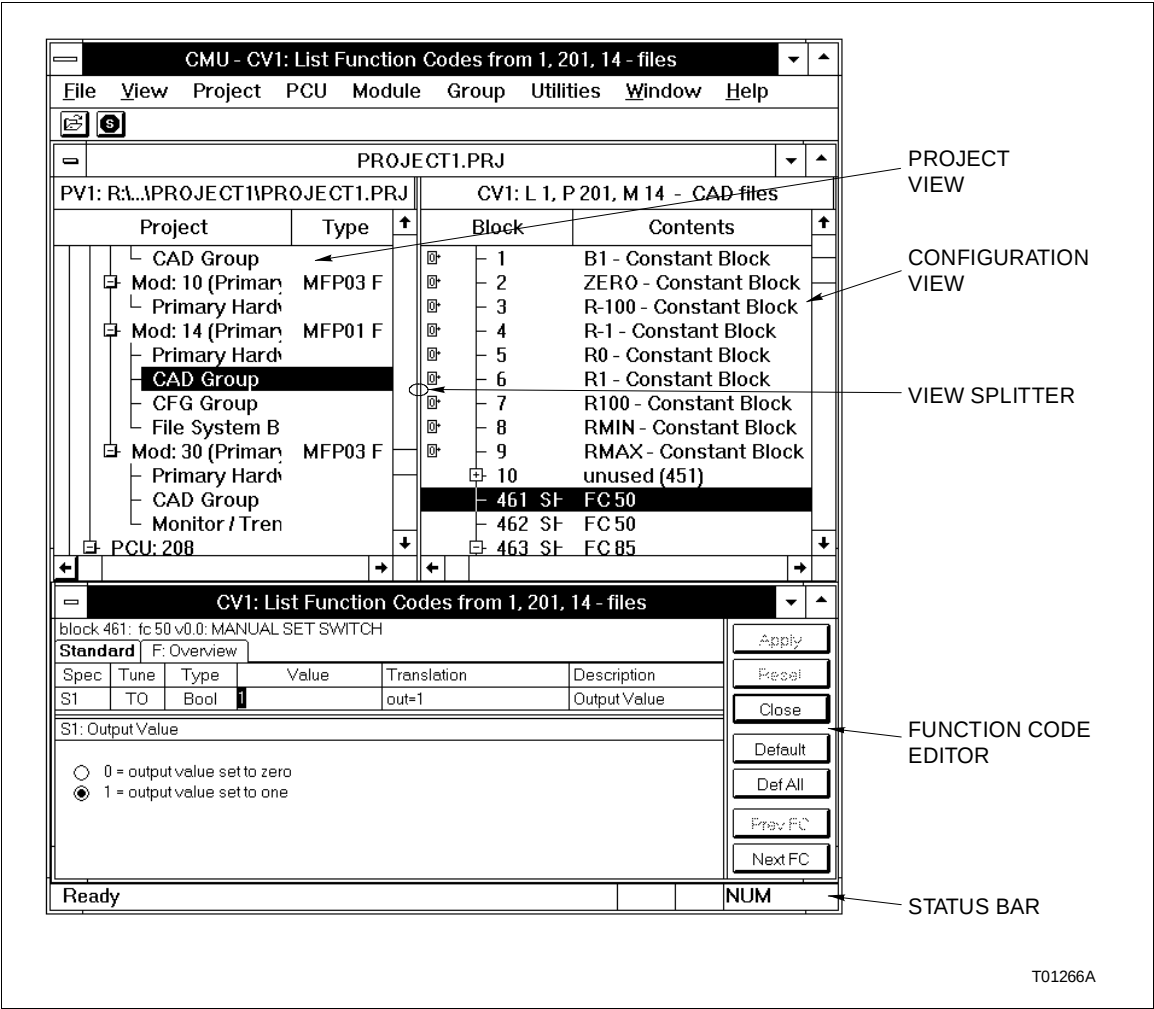

Figure 7-1. CMU Application Window
3. Examine any function block outputs of interest. To tune function code specifications, choose *Modify Specs* from the *Functions* menu (**Alt U S**). A function code editor appears similar to that shown in Figure 7-1. Only tunable parameters are shown. Refer to **FUNCTION CODE EDITOR** for information on using the function code editor.
The CMU application runs under the Windows operating environment. The parts of the CMU application window are shown in Figure 7-1 and described in the following paragraphs.